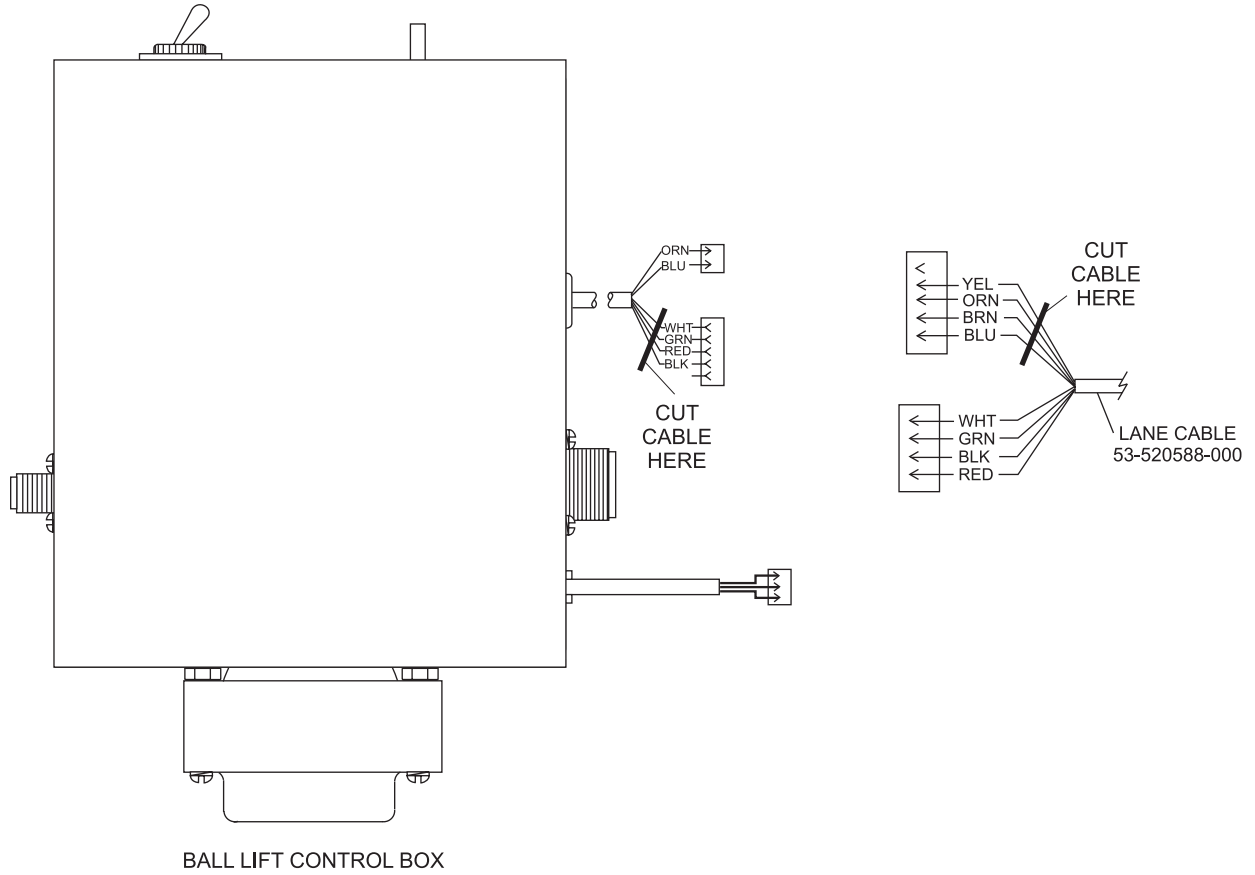

Figure 7
3. Cut off the 5 pin connector on the lane cable and ball lift control box. Refer to *Figure 7*.